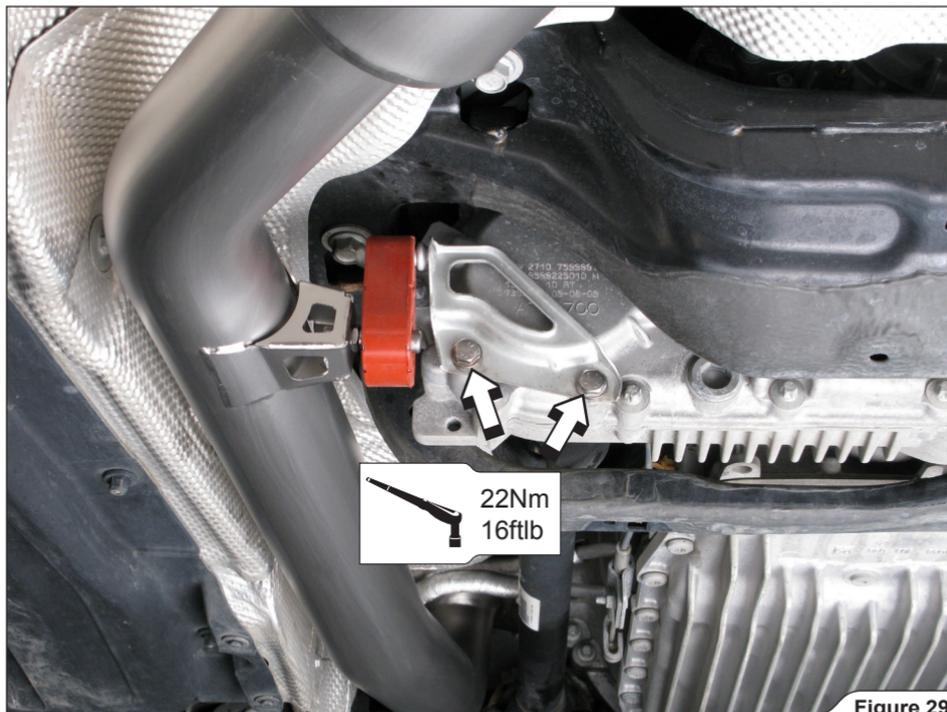

Figure 29
9. Attach the link pipes' rubber brackets onto the transmission (Figure 29, 30).